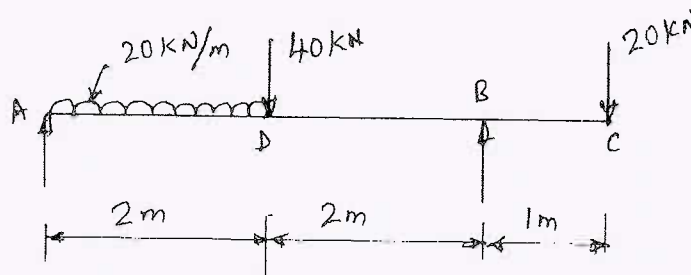

Fig.Q.5(b)
- b. Draw the shear force and bending moment diagrams for the beam shown in Fig.Q.5(b). (10 Marks)